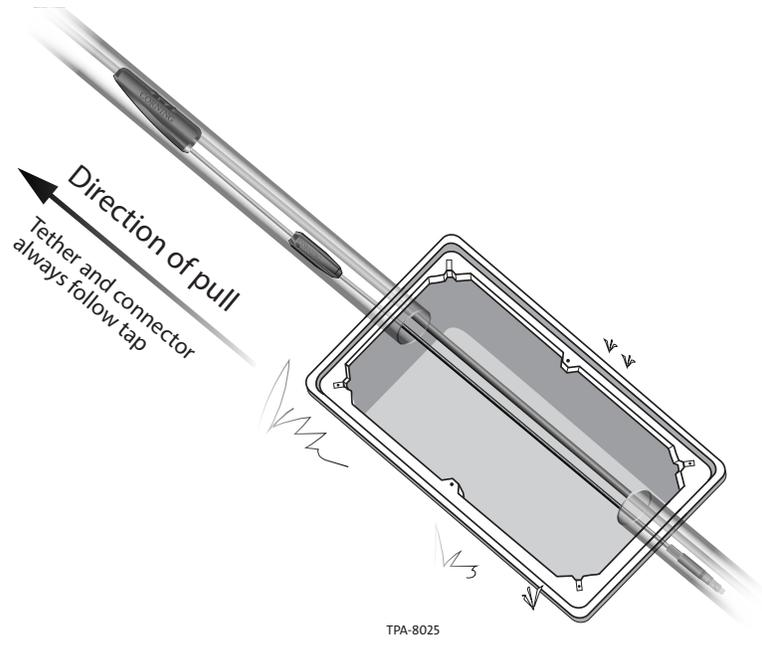

Figure 9
- 6.1 The FlexNAP™ System cable assembly is intended to be installed only in one direction, with the cable entering the duct on the field side and being pulled toward the Central Office with the tethers trailing the pulling direction. (Figure 9).